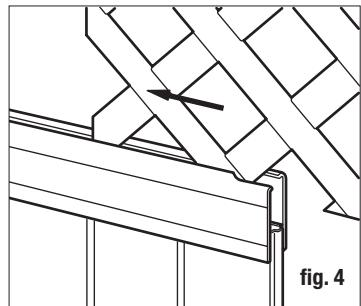

fig. 4
- Slide the lattice into the top channel of the H-rail (fig. 4).
- While holding the bracket in place, attach one screw into one of the slotted holes. Place the screw at the end of the slot closest to the mounting face of the bracket (fig. 4).
- Glissez le treillis sur le profilé supérieur de la traverse en H (fig. 4).